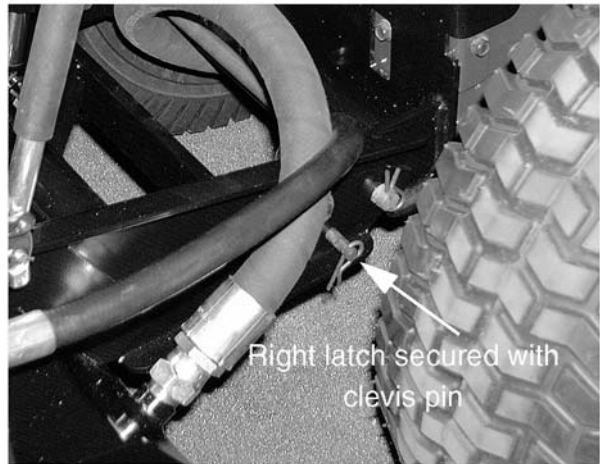

Figure 8-70.
18. Continue pushing the tractor back. When the right latch engages the hitch rod, close the latch, and secure it with the clevis pin and hairpin clip. See Figure 8-70.